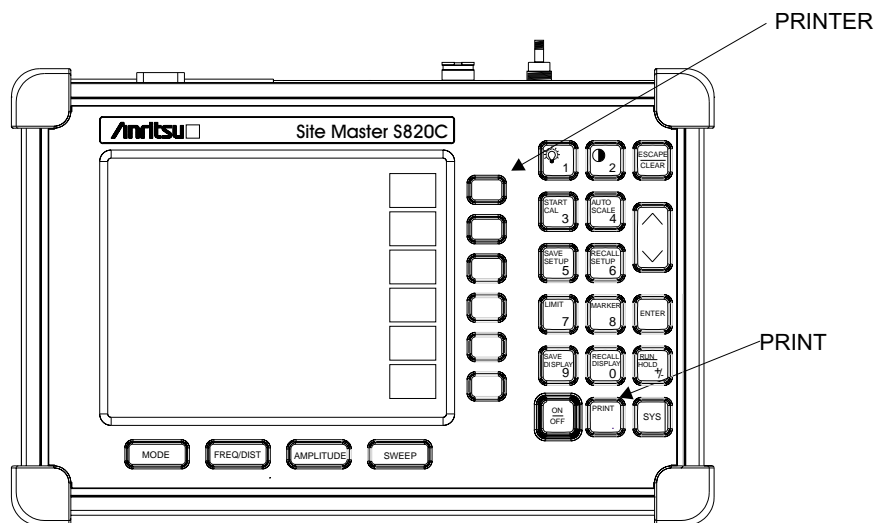

Figure 3-4. Printer Soft Key and PRINT Key
Step 5. Press the **PRINT** key. (Figure 3-4).